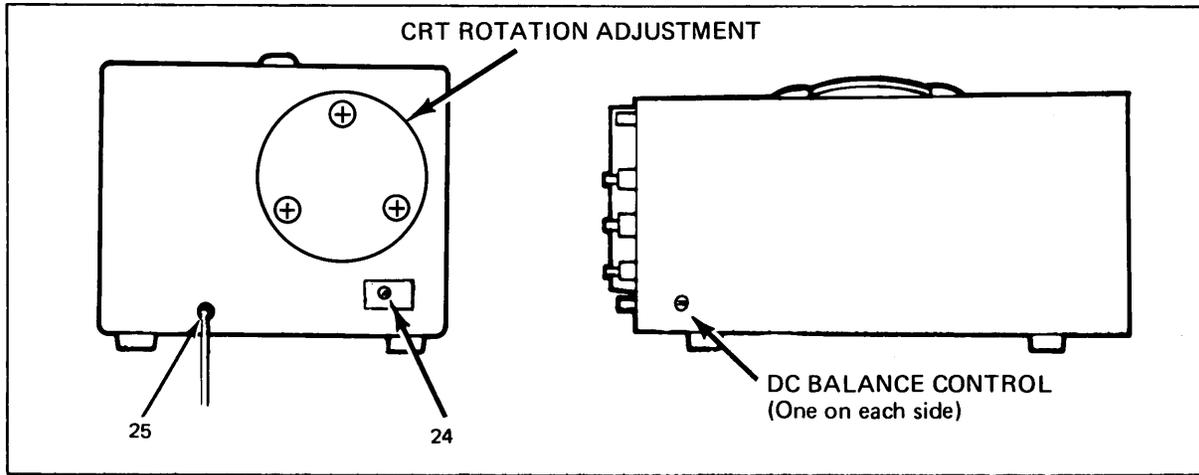

Fig. 2. Rear and side panel facilities.
- 25. AC Line Cord (See Fig. 2). CSA-approved for oscilloscopes.